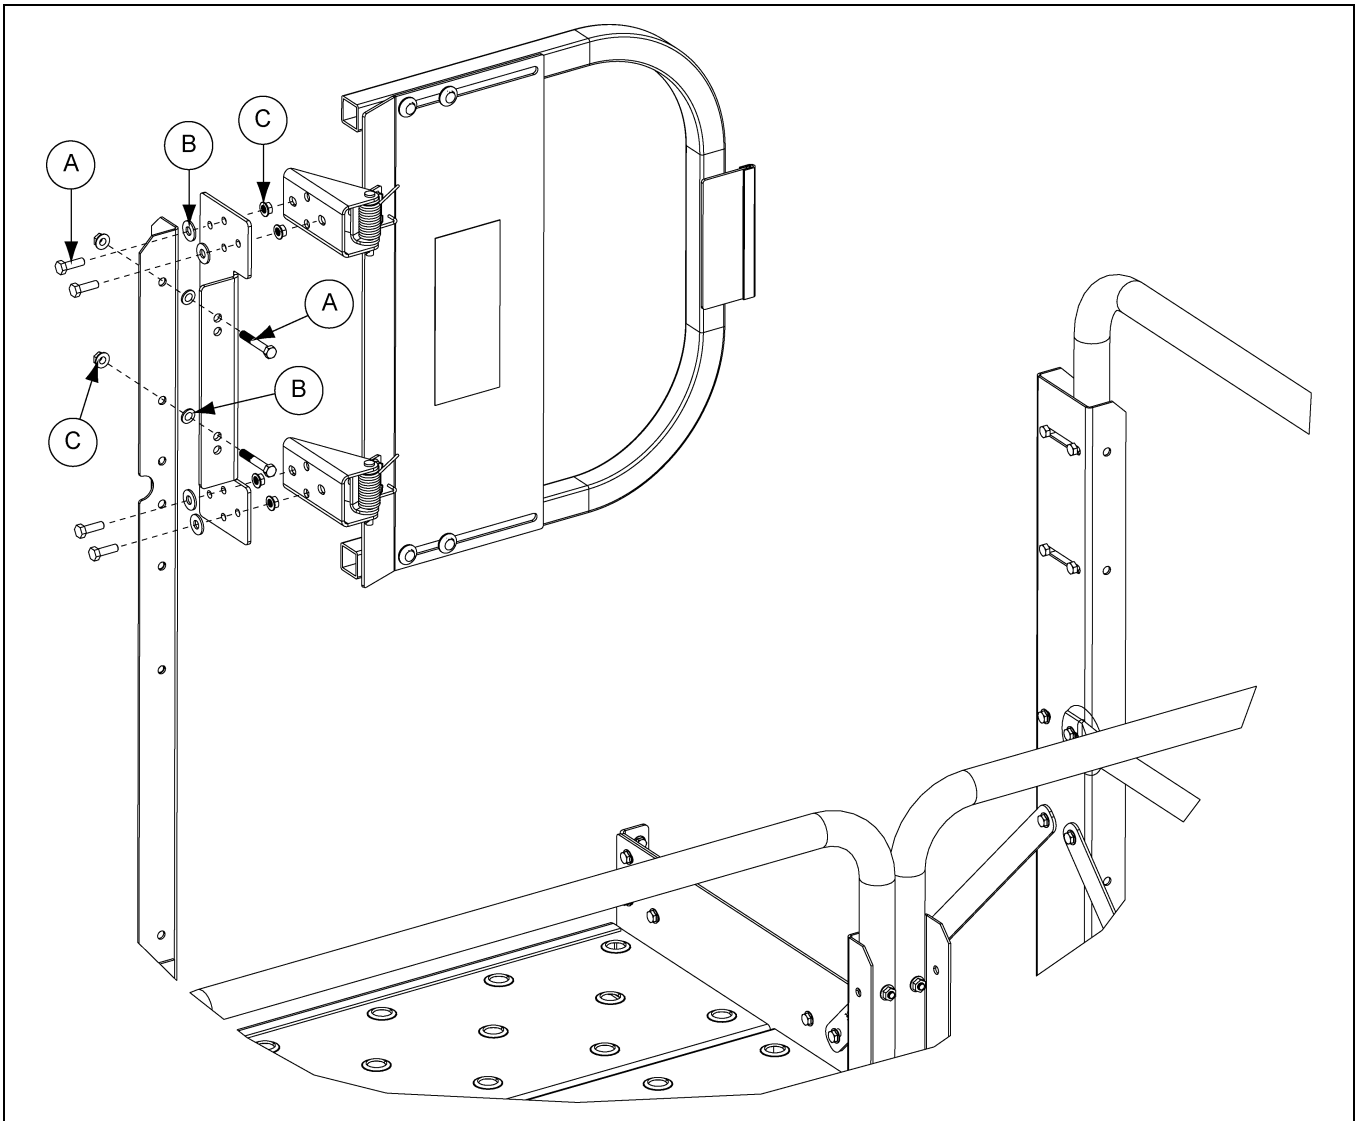

Figure 10P
Attach intermediate platform door bracket to two (2) safety gate side posts (HP1648HP) using 5/16" bolt (S-1196), 5/16" flat washer (S-845) and 5/16" flange nut (S-3611). (See Figure 10P.)